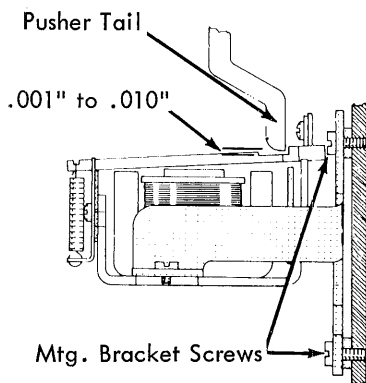

FIGURE 33. Mounting Bracket Position
8. Mounting Bracket (Fig. 33) - Position under its four mounting screws for .001" to .010" clearance between the pusher tails and armatures.